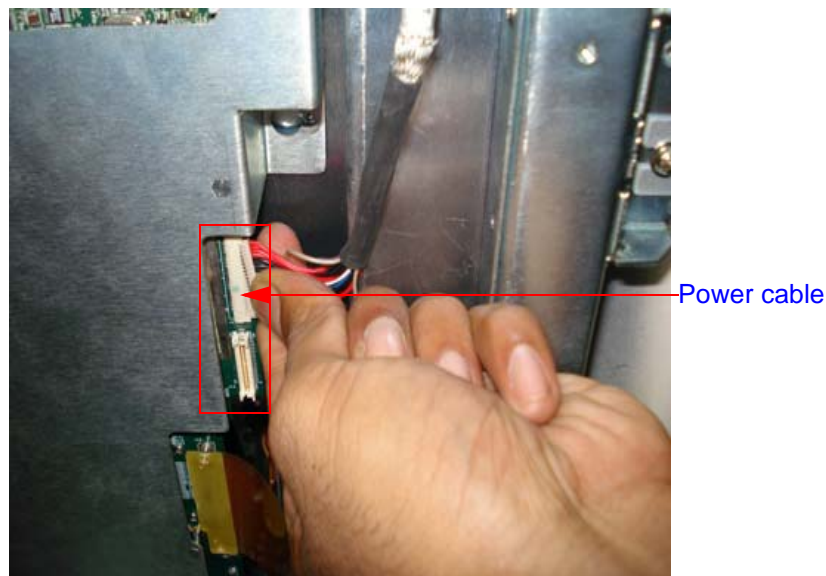

Figure 8-45 Removing Power cable of MST board
- 7) Remove the Power cable from MST board Refer Figure 8-45 on page 8-43